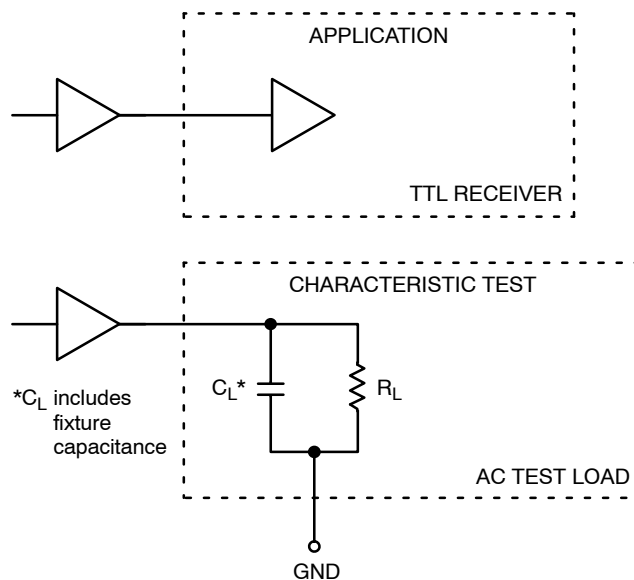

Figure 3. TTL Output Loading Used for Device Evaluation
5. Measured with a 750 mV 50% duty-cycle clock source. $R_L = 500\ \Omega$ to GND and $C_L = 20\text{ pF}$ to GND. Refer to Figure 3.